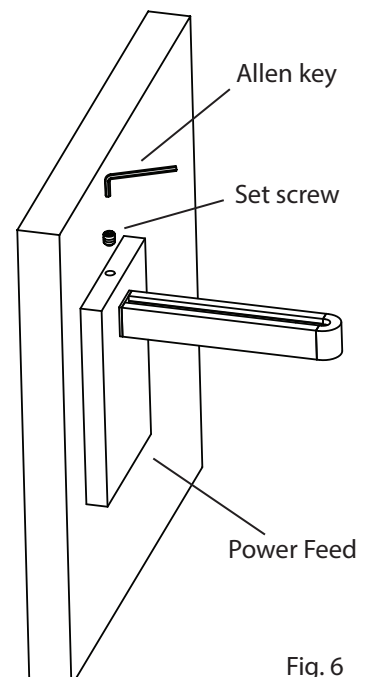

Fig. 6
17. Attach **Power Feed** to mounting bracket. Secure using **set screw** and included **Allen key**. (Fig. 6)